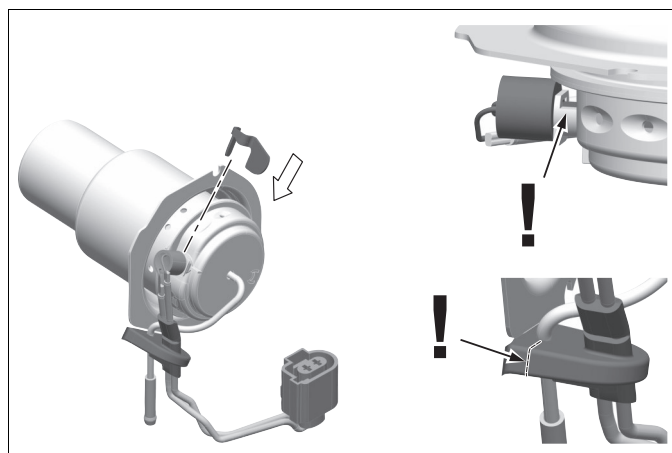
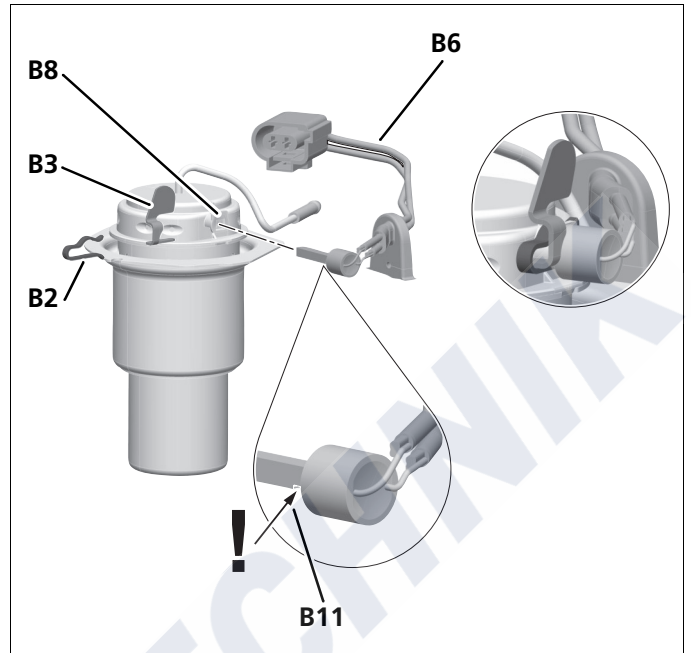

Fig. 28 Fit cooling flag
Fig. 31 Assembly glow plug
Fit glow plug (B4) with the groove (B11, below the ceramic) in the direction of the combustion pipe (see detail Fig. 31).
3. Hold the cooling flag (B3) in the groove (B11) with your hand on the glow plug mandrel (B8) (see Fig. 28 and Fig. 31).
4. Push spring clip (B2) over cooling flag (B3) and glow plug mandrel (B8) (for orientation of spring clip B2, see Fig. 31).